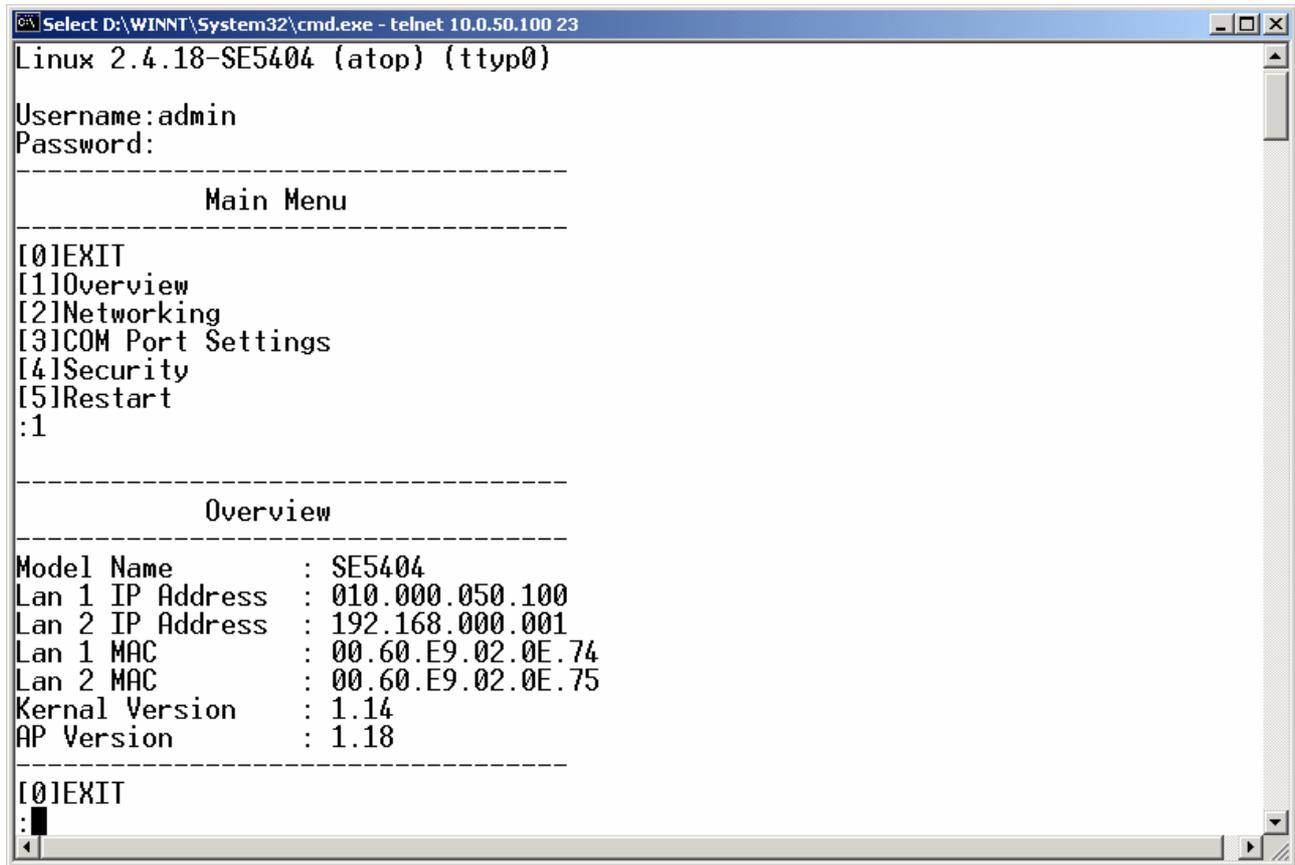

Figure 3.6 System configuring using Telnet
->Enter "1" from "Main Menu" to select "overview" .:( Figure 3.6)